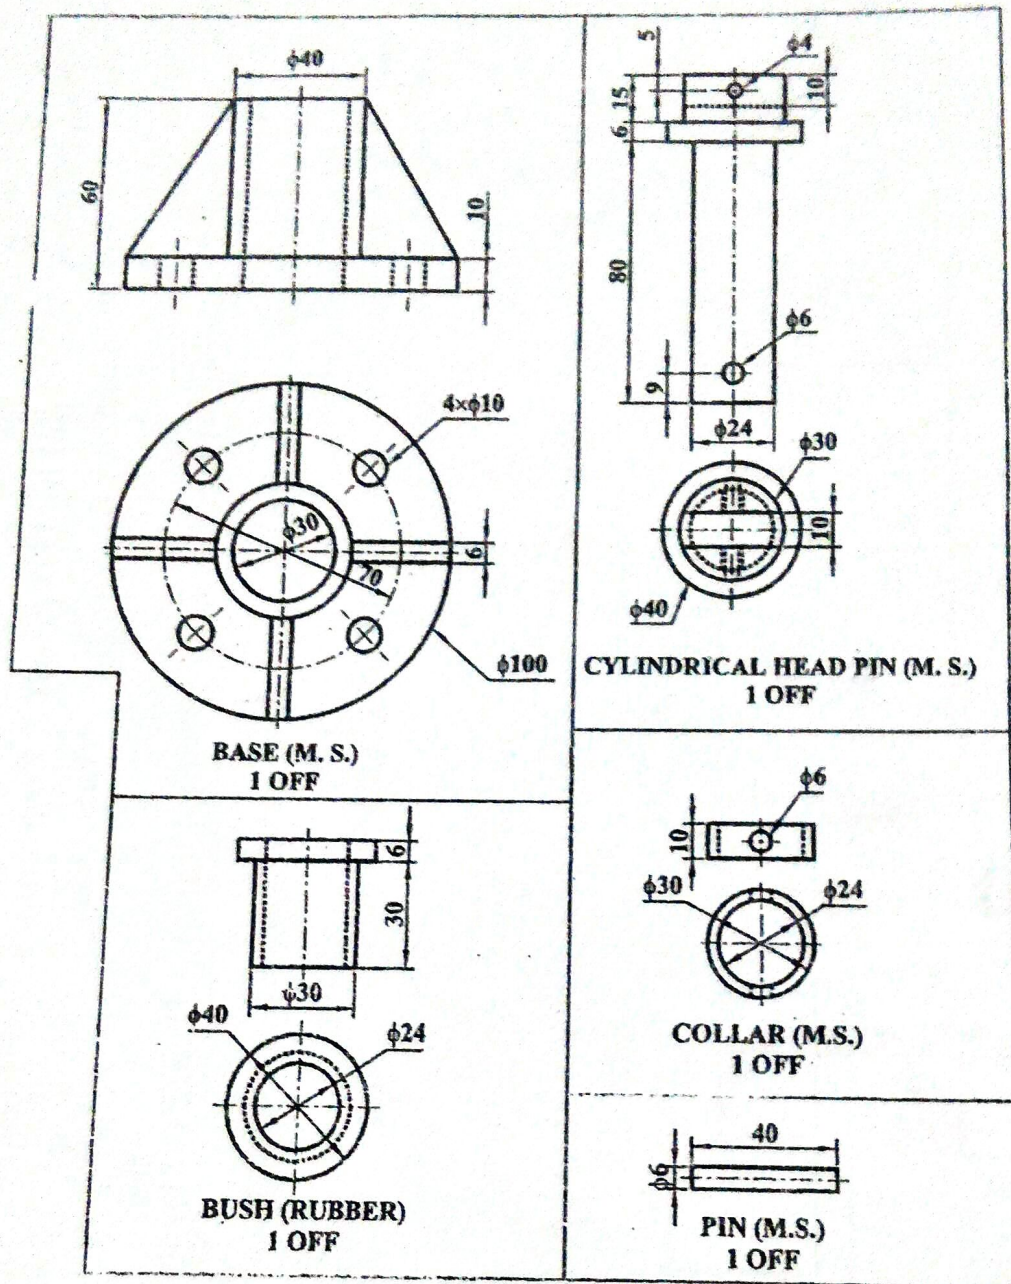

Figure 3
3. Draw assembly drawing from the machine components from figure 3.